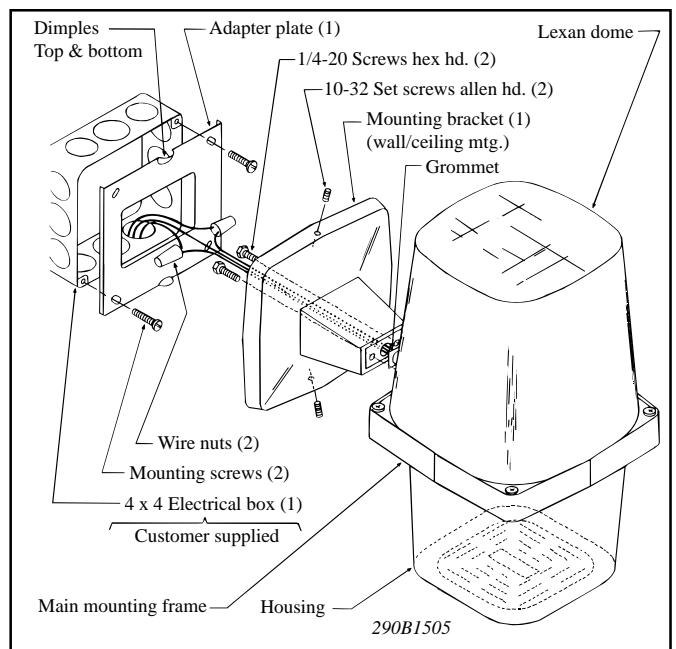

Figure 3.
7. Attach the adapter plate to the mounting surface, using the appropriate user-supplied hardware, as indicated in figure 3.
9. Using the wires extending through the conduit fitting as a guide, determine the length of the conduit necessary for the installation, as indicated in figure 3.
3. See figure 3. Attach the wall/ceiling mounting bracket to the main frame casting, using the two 1/4"-20 x 1/2" hex head screws (supplied). Make sure that all wiring from the interior of the light passes through the large center hole in the end of the bracket.